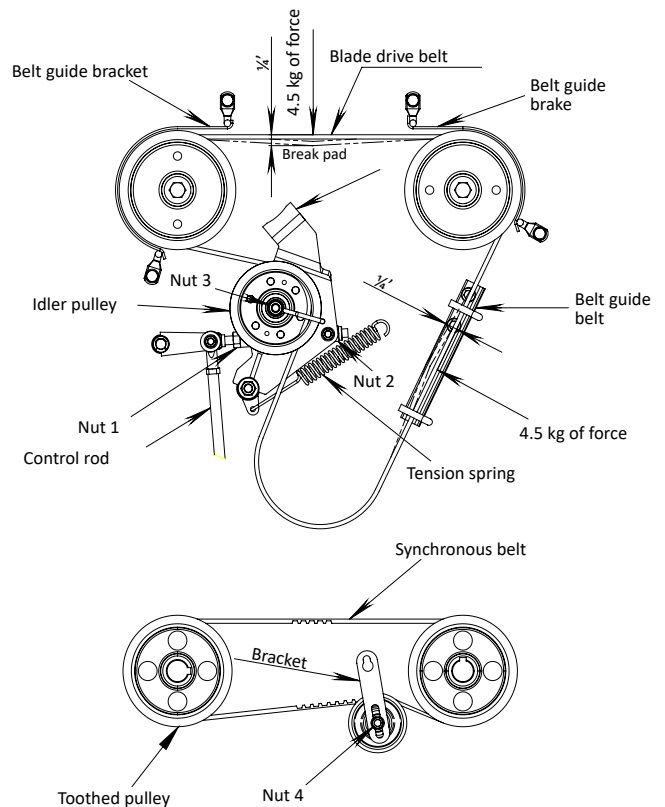

FIG 9.
- Remove the belt cover. Adjust the mower deck belt using a belt tension gauge. Engage the blade drive lever, tighten the mower belt, and adjust the belt so that it moves 0.6 cm with 4.5 kg of pressure. Adjust the tension by tightening or loosening the M10 nut. (See FIG 9).
- Insert the blade drive lever, loosen the nut, and pull the waist-shaped hole forward. Make sure the belt tension is adequate. (Apply a force of 1-2 kg to the tension side of the belt, the belt deflection is 7-9 mm) (See FIG 9)
- Remove the blade drive belt according to the reference method 5.2.2, then loosen the nut on the idler pulley, take the synchronous belt off the axle pin, then install the new synchronous belt in reverse order. (See FIG 9)
Test the blade brake system; the blade brake bearing can ensure that the rapidly rotating blades stop within 3 seconds. (See FIG 9)